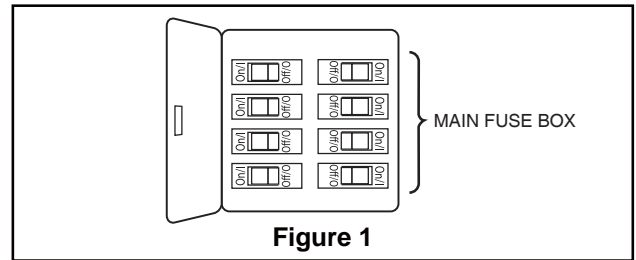

Figure 1
Low profile usage diagram idea (Figure 1)
- 1. Remove the hanger ball portion from the downrod/hanger ball assembly by loosening the set screw in the hanger ball until the ball falls freely down the downrod. Remove the pin from the downrod, then remove the hanger ball. Retain the pin and hanger ball for reinstallation in Step 6. (Figure 1)
To avoid possible fire or shock, be sure electricity is turned off at the main fuse box before hanging. (Figure 1)
To avoid possible electrical shock, be sure electricity is turned off at the main fuse box before hanging (Figure 1).
- 1. Remove one of the two shoulder screws in the hanger bracket. Loosen the second shoulder screw without fully removing it. Assemble canopy by rotating key slot in canopy over shoulder screw in hanger bracket. Tighten shoulder screw. Fully assemble and tighten second shoulder screw that was previously removed. (Figure 1)
- 1. Carefully slide the blade through the slot as shown. (Figure 1)